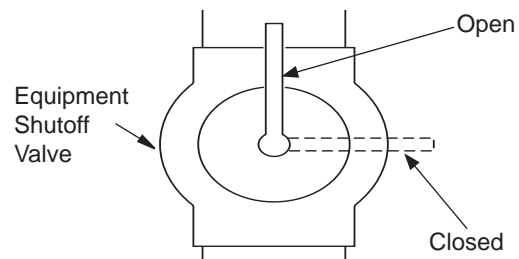

Figure 13 - Equipment Shutoff Valve
1. Close equipment shutoff valve (see **Figure 13**).
1. Open equipment shutoff valve (see **Figure 13, Page 9**).